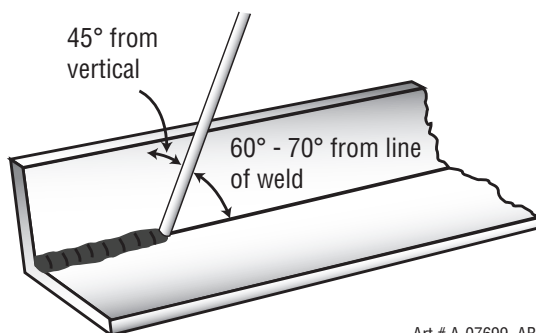
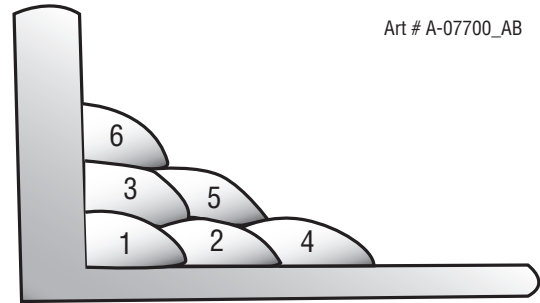

Figure 4-13: Electrode Position for HV Fillet Weld
Figure 4-14: Multi-runs in HV Fillet Weld
A piece of angle iron is a suitable specimen with which to begin, or two lengths of strip steel may be tacked together at right angles. Using a 1/8" electrode, position angle iron with one leg horizontal and the other vertical. This is known as a horizontal-vertical (HV) fillet. Strike the arc and immediately bring the electrode to a position perpendicular to the line of the fillet and about 45° from the vertical. Some electrodes require to be sloped about 20° away from the perpendicular position to prevent slag from running ahead of the weld. Refer to Figure 4-13. Do not attempt to build up much larger than 1/4" width with a 1/8" electrode, otherwise the weld metal tends to sag towards the base, and undercut forms on the vertical leg. Multi-runs can be made as shown in Figure 4-14. Weaving in HV fillet welds is undesirable.